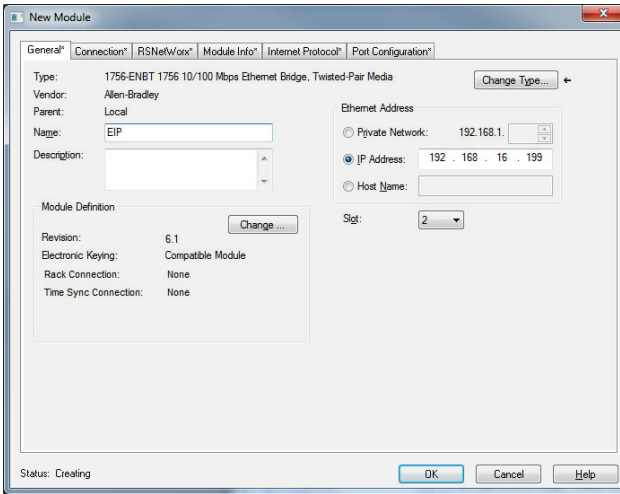

Figure 43: Identifying the New Module
6) The “New Module” window will open. Refer to Figure 43.